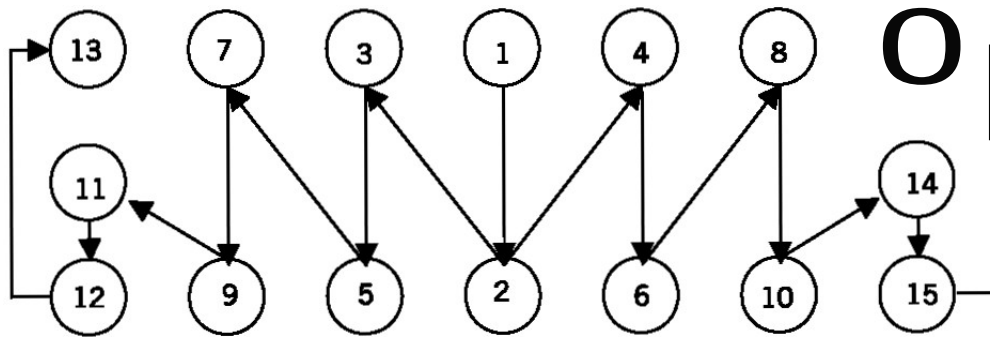

Figure 1-Torque Pattern
- B. Tighten all nuts per Figure 1 - Torque Pattern, to 35 ft-lb torque. After the initial torque has been applied re-torque them to 50 ft-lb, again using the pattern shown in Figure 1. The permissible range of final torque values are as follows:
Re-torque nuts to 50 ft-lb per Figure 1 - Torque Pattern.